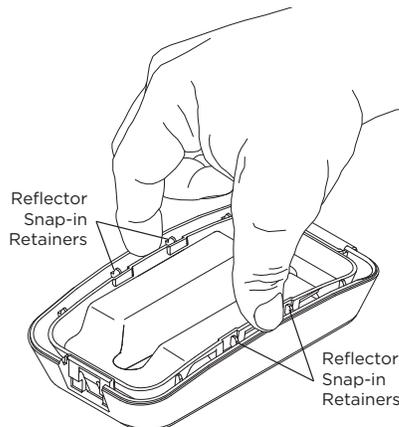
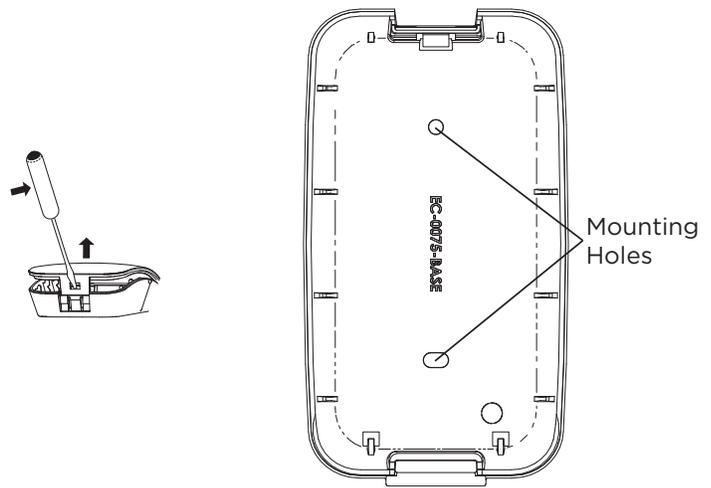

Figure 2: Reflector Removal
Figure 5: Screw Mount
2. The base contains the reflector, PCB and batteries. Gently squeeze and lift the reflector from the snap-in retainers on the base to expose the PCB (see Figure 2). It is not necessary to remove the PCB to access the mounting holes. See Figure 5 for mounting hole locations.